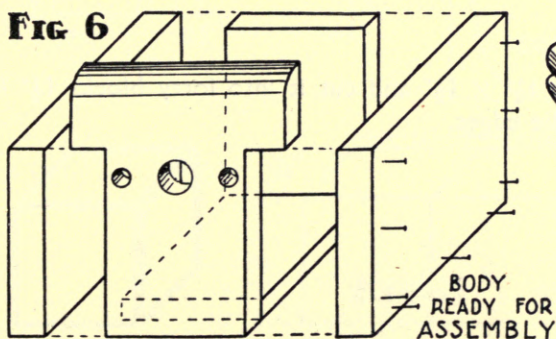

FIG 6
**ASSEMBLY.**—Clean up the six pieces and glue and nail together. Punch in the nails. The bottom fits in between the sides. Finally screw on the four wheels (Fig. 6) with a washer on both sides. Into the front of the bottom drive a small staple to which a cord may be attached.